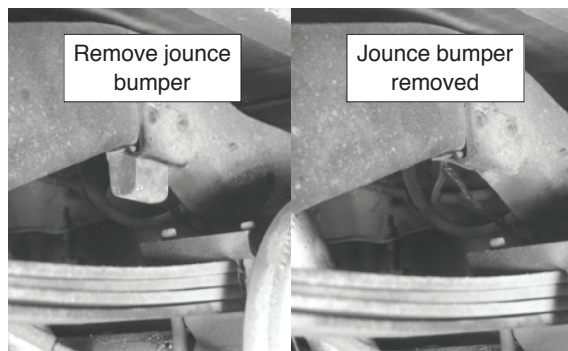

fig. 7
1. Unbolt and remove the rubber jounce bumper from the frame rail and discard (fig. 7).